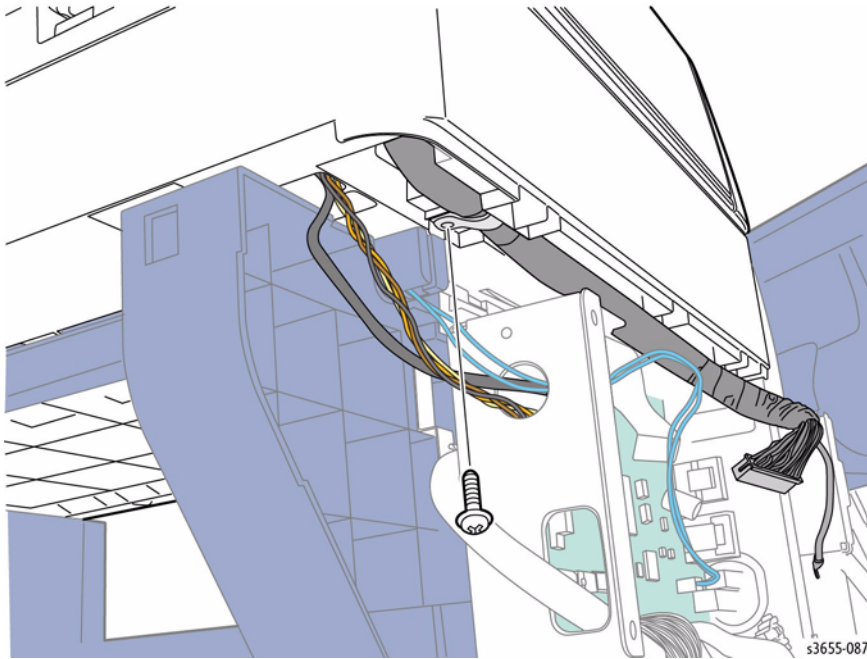

Figure 2 Release the DADF Harness
8. Refer to Figure 2 to locate and remove 2 screws that secure the DADF cable clamps to the underside of the Scanner and remove the clamps from the cable.